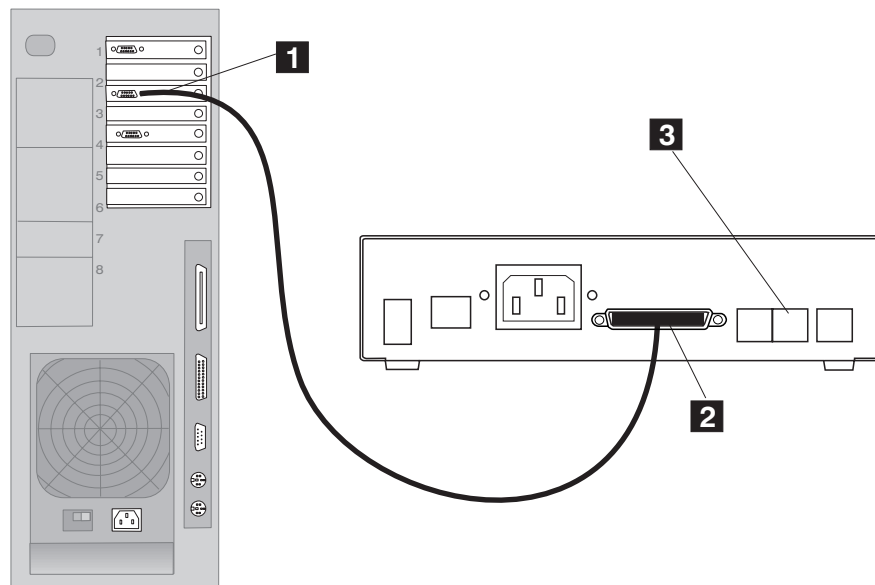

Figure 1-73. Connecting the Service Processor (9585) from the MPA Card to the 7858
- **9585**, refer to Figure 1-73